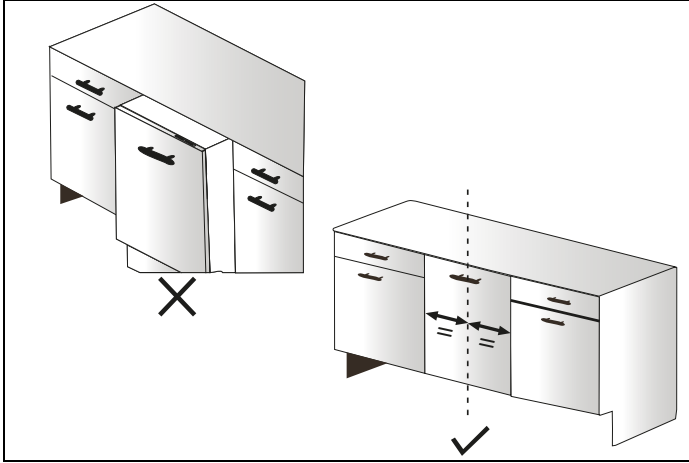

Fig. 32
11) The dishwasher must be placed centered and correctly as shown in the Fig. 32 .